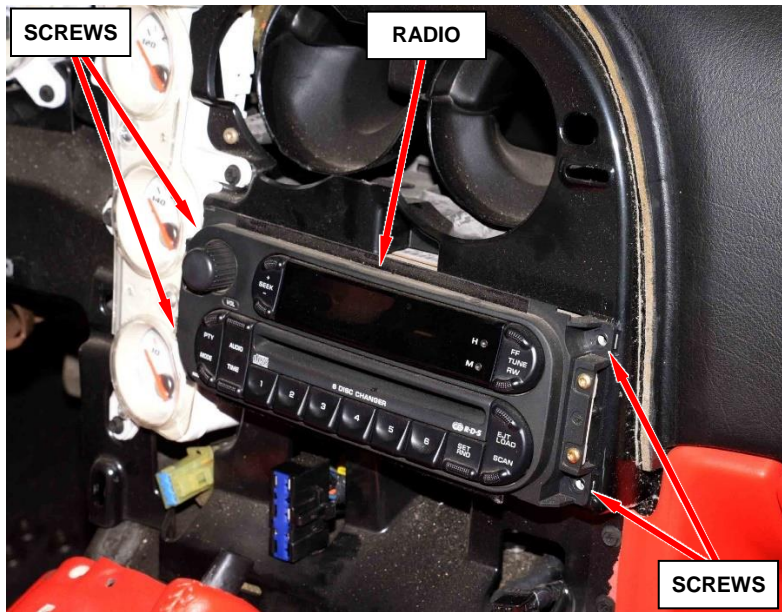

Figure 13 – Radio
31. Remove four screws securing the radio to the instrument panel (Figure 13).
52. Install the four screws securing the radio to the instrument panel (Figure 13).